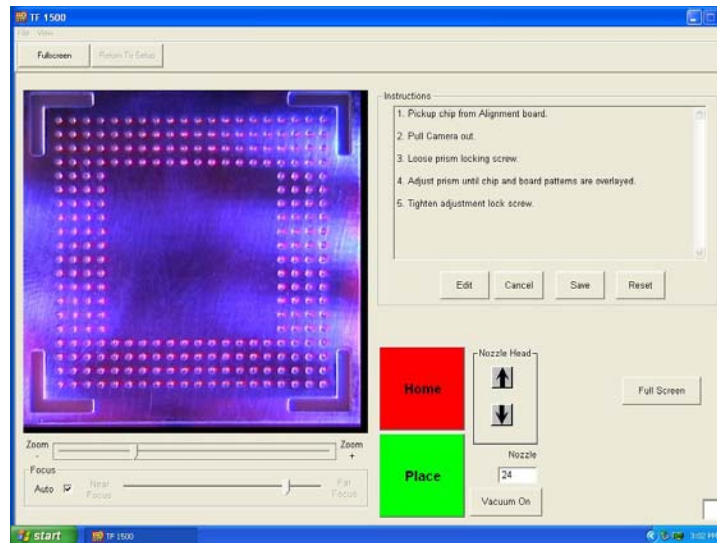

Figure 12
- x. Image in the window should be aligned like figure 12.